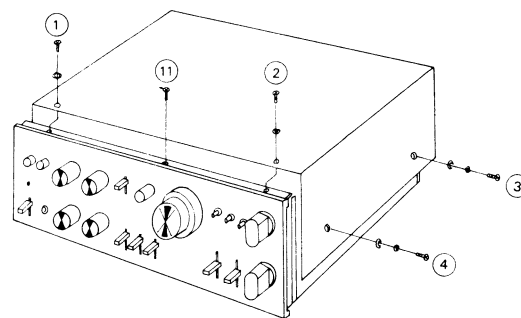
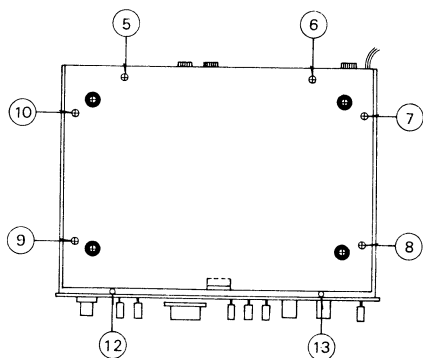

Fig. 1
Fig. 2
1. Remove six (6) cabinet mounting screws, nos. ① ~ ④, as illustrated in figure 1. (No. ③ and ④ screws are left and right side of cabinet.)
3. Remove six (6) bottom board mounting red screws, nos. ⑤ ~ ⑩, as illustrated in figure 2.
4. Remove three (3) panel mounting black screws, nos. ⑪ ~ ⑬ as illustrated in figure 1 and figure 2.